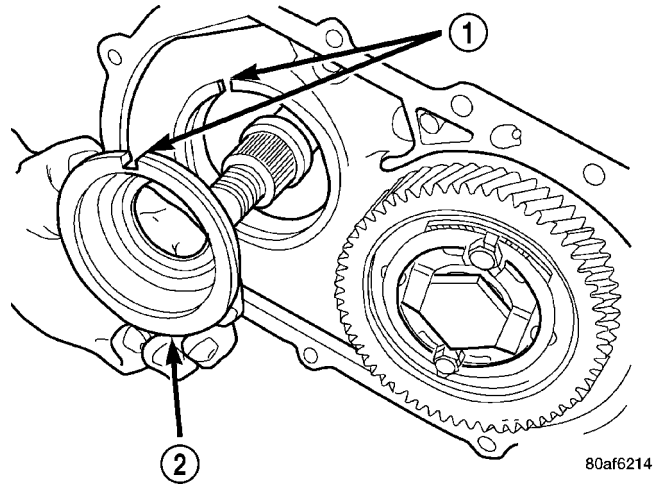

Fig. 56 Remove Bearing Cup Retainer
(40) Remove bearing cup retainer (Fig. 56).